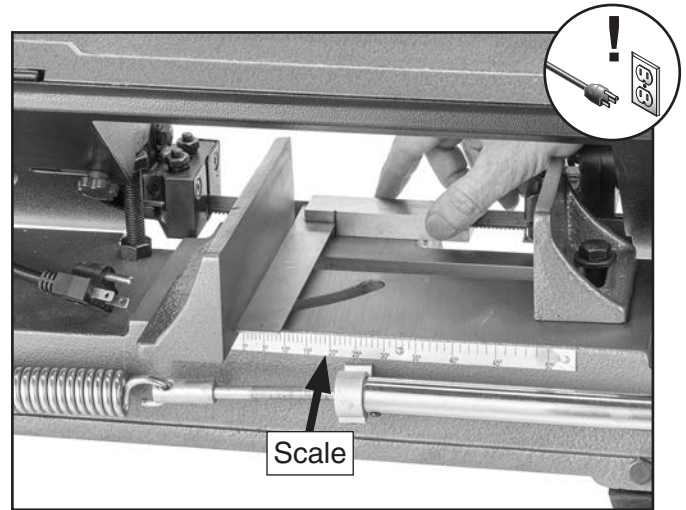

Figure 28. Squaring vise to blade.
3. Use scale as guide or use machinist's square to set angle of vise, as shown in **Figure 28**.